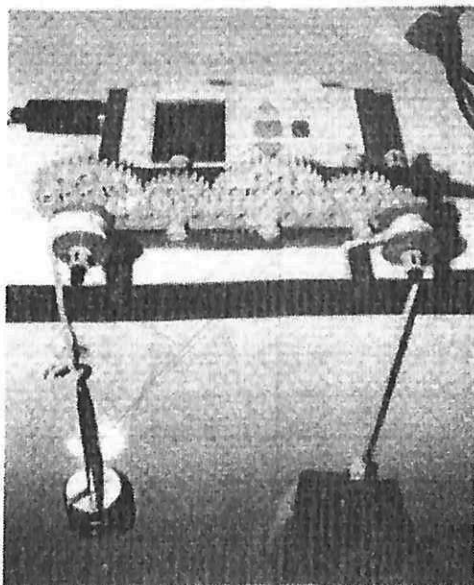

Figure 4.2.1: Experiment set-up.
1. Set up a gear train to test various gear ratios (see Figure 4.2.1).